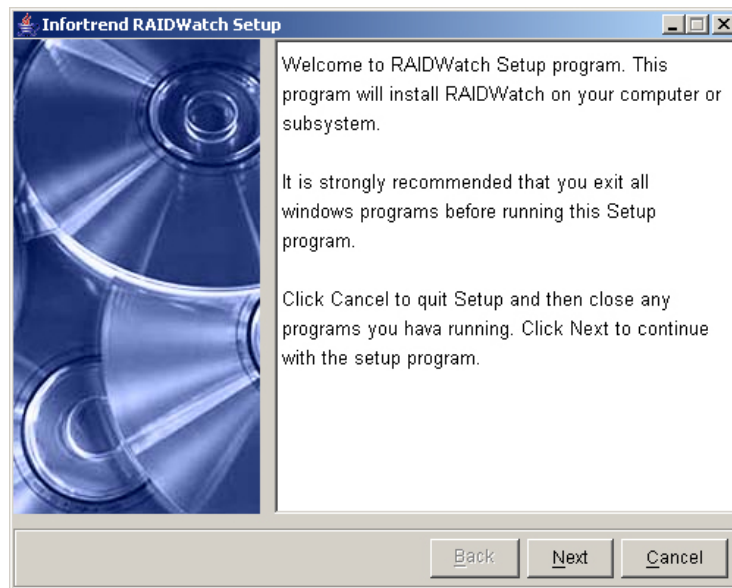
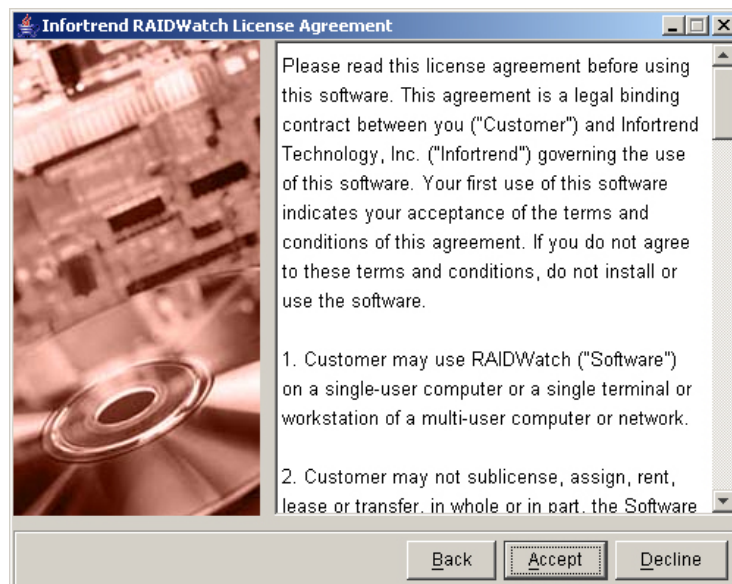
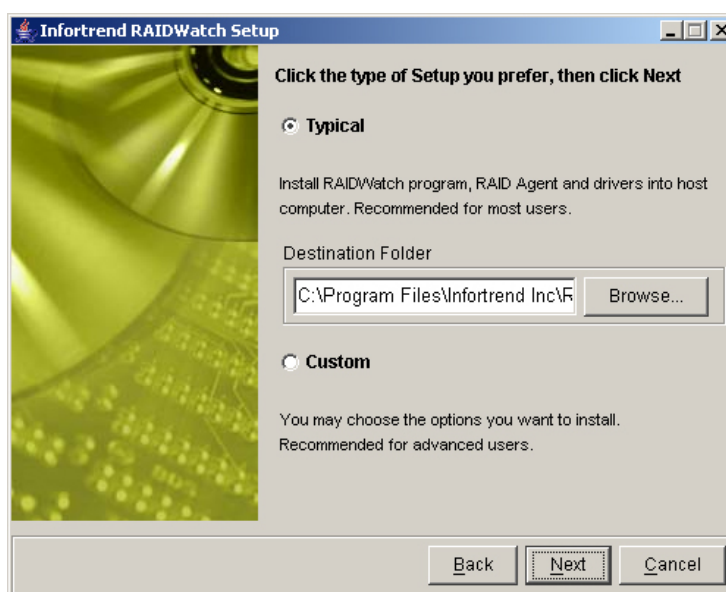

Figure 3-3: Welcome to the Install Shield Window
Figure 3-4: License Agreement
Figure 3-5: Choose an Installation Mode
-  **Step 5.** After opening the install shield, the welcome screen shown in *Figure 3-3* will appear. If your server or workstation is not ready with Java Runtime (at least version 1.4.2), the install shield will automatically install Java Runtime onto your machine. Please follow the on-screen instructions to proceed.
-  **Step 7.** If you selected the *Next* button on *Figure 3-3*, the License Agreement window seen in *Figure 3-4* will appear. First read through the License Agreement. If you are in agreement with the specified terms and wish to continue installing the RAIDWatch program, select *Accept*. If you do not wish to continue with the installation process then select the *Decline* button.
-  **Step 8.** If you accepted the License Agreement in *Figure 3-4*, a new window with two installation options will appear. These options, shown in *Figure 3-5*, are *Typical Install* and *Custom Install*. The default is set to *Basic Install*. All users are recommended to install RAIDWatch